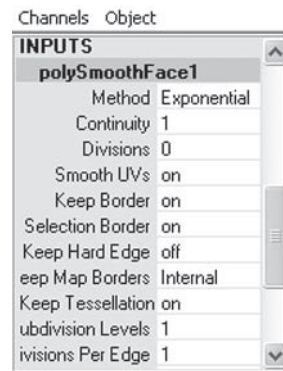

FIGURE 3.78 Polygon Smoothing Channel Box parameters.
6. Type the value 0 in the Divisions field, as shown in Figure 3.78.